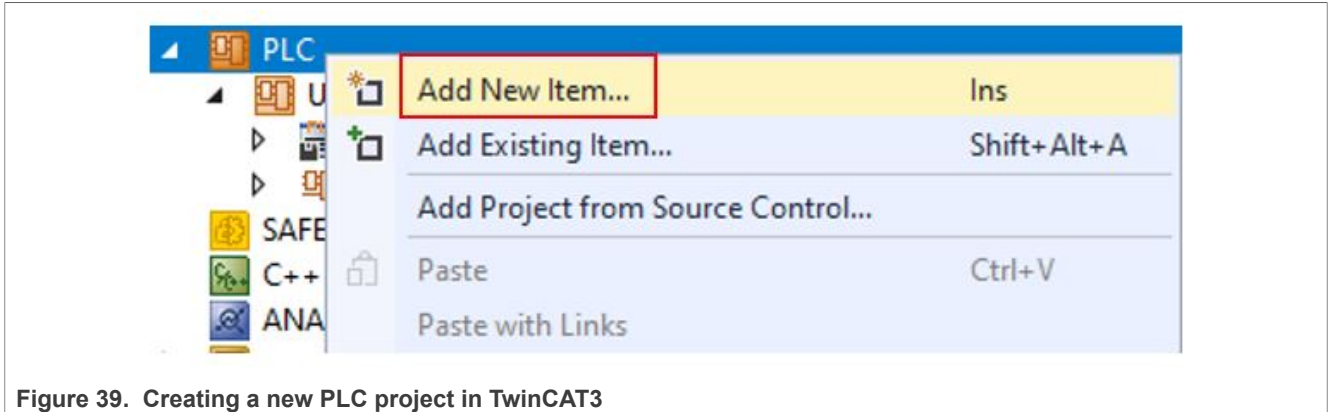

Figure 39. Creating a new PLC project in TwinCAT3
1. First, create a new PLC project. Right click **PLC** and then click **Add New Item**, as shown in Figure 39.